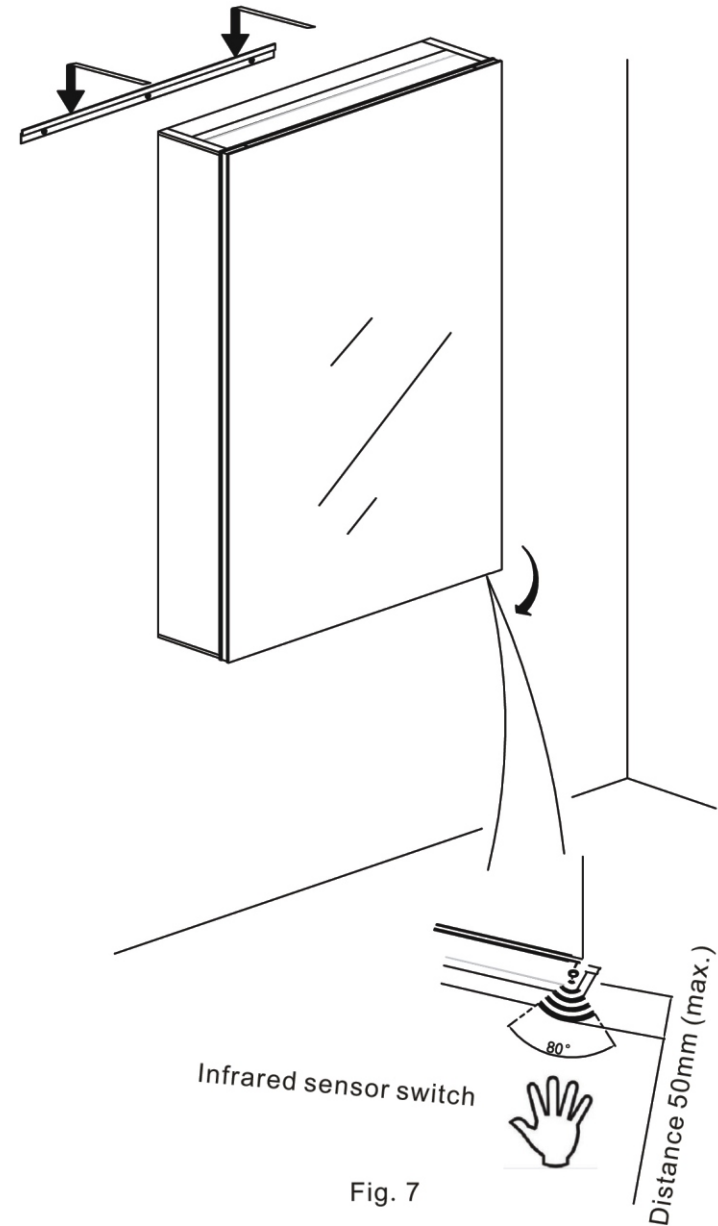

Fig. 7
- 2.4 Finally, turn on the main switch, and test if the switch works normally (Fig. 7).